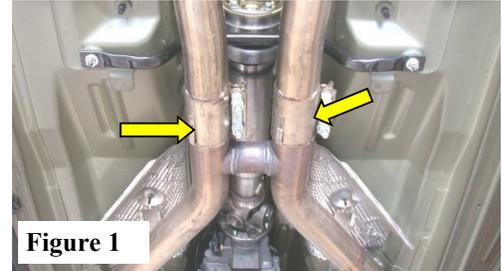

Figure 1
1. Loosen the front band clamps shown located just behind the H-pipe. (See Figs.1 & 2)